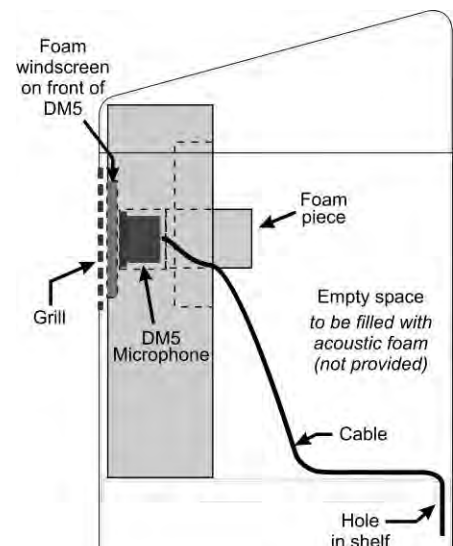

Figure 18. Microphone unit in typical speaker post installation
- Place the foam windscreen in front of the microphone, positioning it so it will cover the inside of the speaker grill as shown in Figure 18.
- Place the microphone, in its foam enclosure, into the compartment, so the front of the microphone windscreen is **flush against the metal**, centered on the grill, as shown in Figure 18.